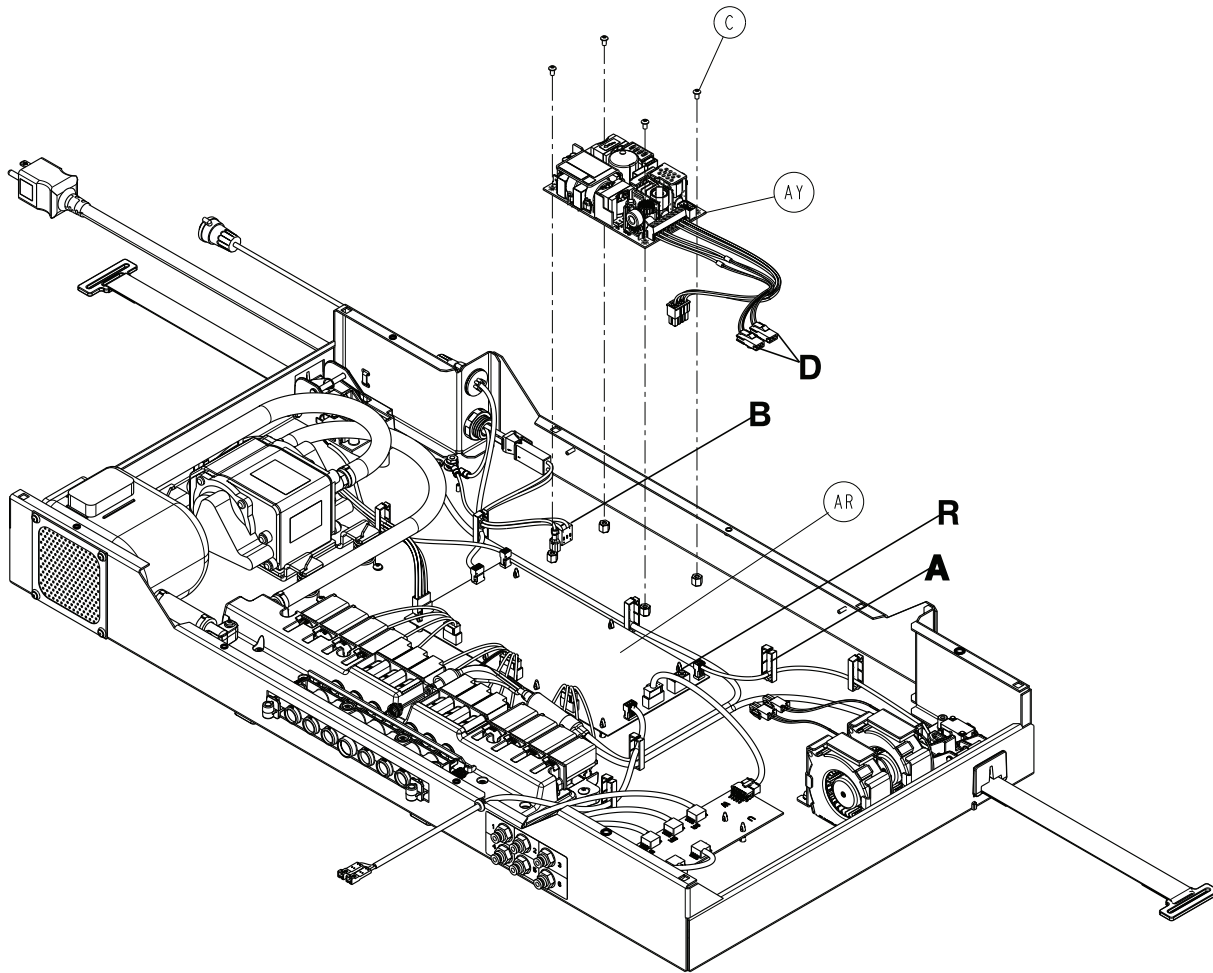

Figure 1-20: Power supply
3. Remove the wires for the fans and DC power from the wire clip (A).
4. Disconnect the DC power connector from the main board (AR) (connector R) (Figure 1-20 on page 1-44).
5. Disconnect the AC power connector (B) from the power supply (Figure 1-20 on page 1-44).
6. Disconnect the two foot box fans (D).
8. Using a T10 Torx driver, remove the four screws (C) that secure the power supply (AY) to the foot box (Figure 1-20 on page 1-44). Save the screws.
9. Remove and discard the power supply (AY) (Figure 1-20 on page 1-44).